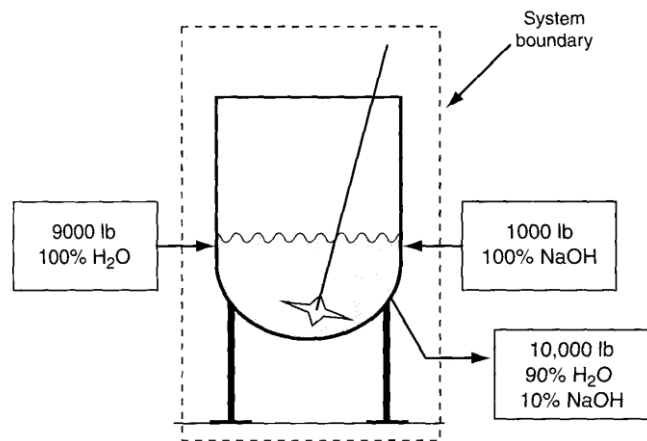

Figure 12 The batch process in Figure 11 represented as an open system.
- ◆ We can summarize the hypothetical operation of the batch as a flow system (open system) as follows (Figure 12):